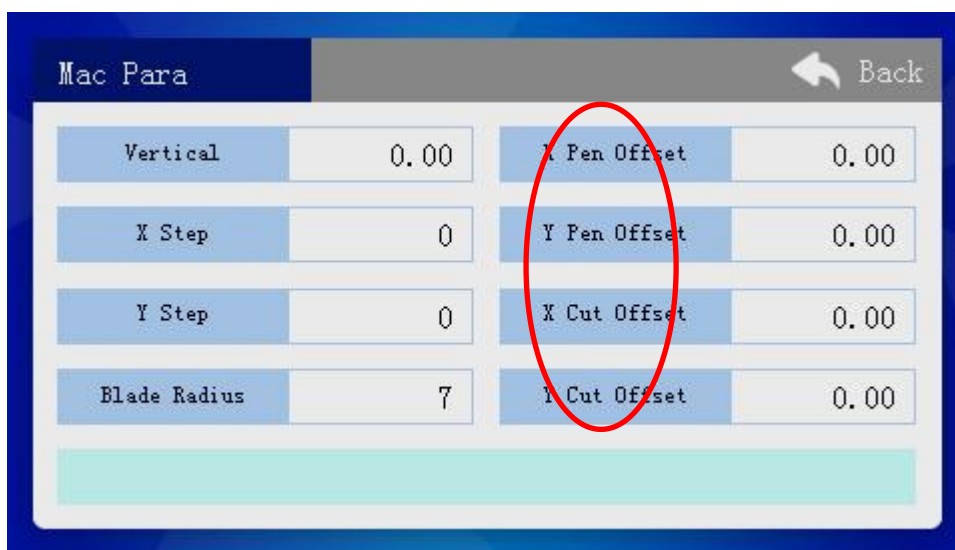

figure 3
2. Check the offset size of the test graphic "10 \* 10" knife and pen, and enter [setting]-[MacSet]-[Mac Pare] to debug X and Y offset parameters. (parameter values can be positive or negative) figure 3